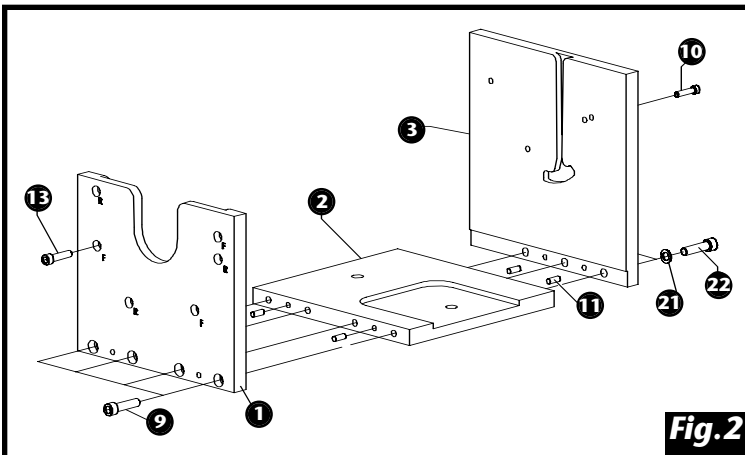

Fig. 2
2. Assemble Engine Cradle (No.1, No.2, No.3) as shown in Fig.2. Make sure all mating surfaces are clean.
4. Install (2) lubed 1/4-20 SHCS (No.10) into the appropriate holes, depending on the spigot bore you are modifying, in the alignment plate (No.3) as shown in Fig.2. Do not tighten. Install (3) lubed 5/16-18 SHCS (No.13) into the mounting plate (No.1) holes marked with letter of the spigot bore you are modifying. Using a 1/4" allen wrench snug all three 5/16-18 bolts, then torque to 13-15 ft. lbs. Once you have tightened the 5/16-18 bolts, torque the 1/4-20 bolts to 90-120 ft lbs. using a 3/16" allen wrench.